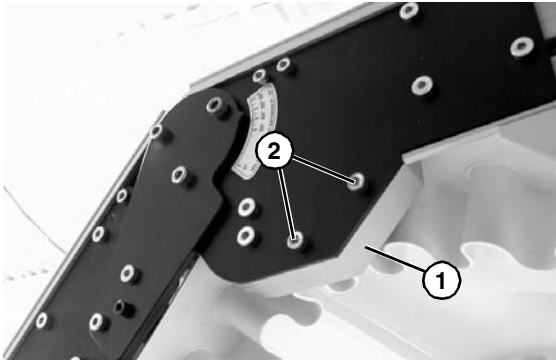

Figure 34
6. Install knuckle guard (**Figure 34, item 1**) on both sides of knuckle with screws (**Figure 34, item 2**). Tighten screws to 25 in-lb (3 Nm).